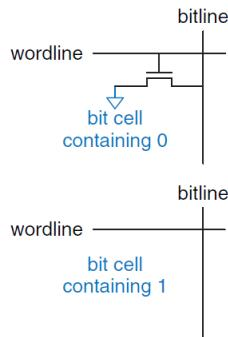

Figure 5.53 ROM bit cells containing 0 and 1
*Read only memory (ROM)* stores a bit as the presence or absence of a **transistor**. Figure 5.53 shows a simple ROM bit cell. To read the cell, the bitline is **weakly** pulled HIGH. Then the wordline is turned ON. If the transistor is present, it pulls the bitline LOW. If it is absent, the bitline remains HIGH. Note that the ROM bit cell is a **combinational circuit** and has no state to “forget” if power is turned off.
The contents of the ROM bit cell in Figure 5.53 are specified during manufacturing by the presence or absence of a transistor in each bit cell. A **programmable** ROM (PROM, pronounced like the dance) places a transistor in every bit cell but provides a way to connect or disconnect the transistor to ground.